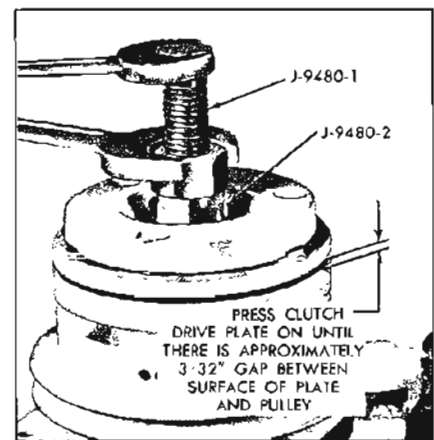

Figure 11-60—Installing Clutch Drive Plate
15. Using Drive Plate Installer (J-9480), screw installer on end of shaft as shown in Figure 11-60. Hold nut and turn bolt until clutch drive plate is pressed within 3/32 inch of the pulley assembly.